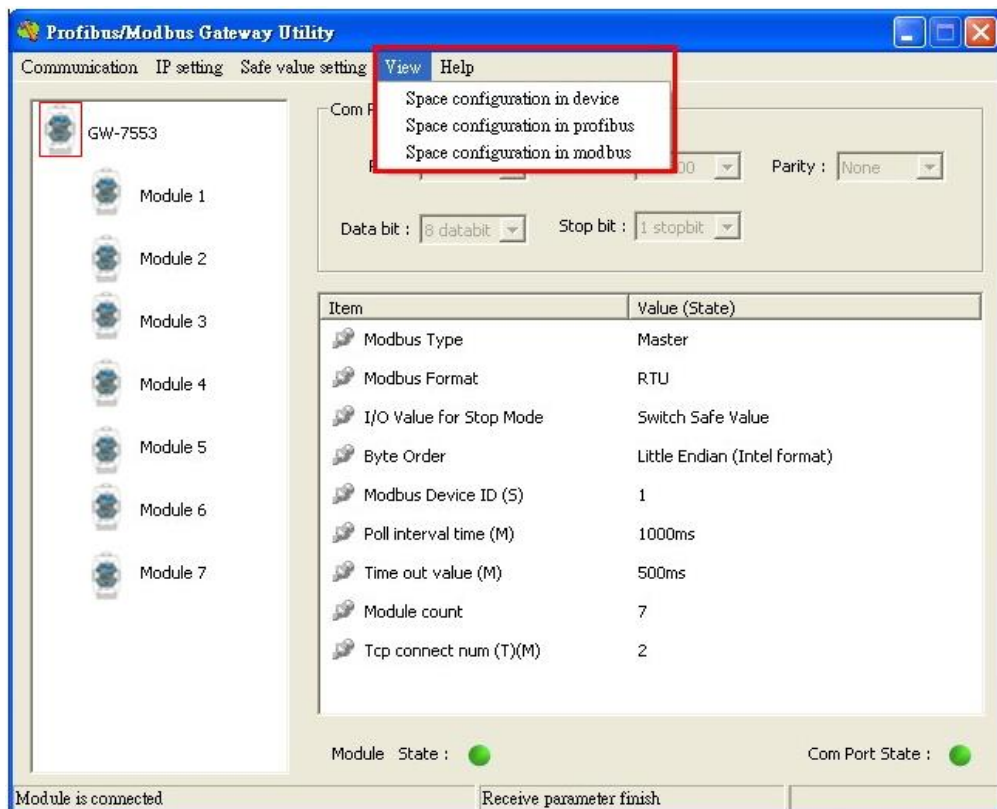

Figure 96 The menu of space configuration
There are 3 kinds of memory address configuration. They are (1)Space configuration in device 、 (2) Space configuration in PROFIBUS 、 (3)Space configuration in Modbus, as shown in *Figure 96*.